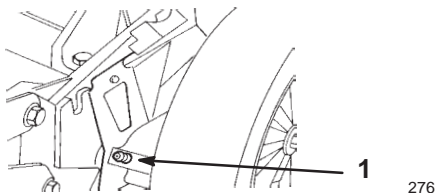

Figure 24
1. Wipe the grease fittings on the rear cutting height levers with a clean rag (Fig. 24).